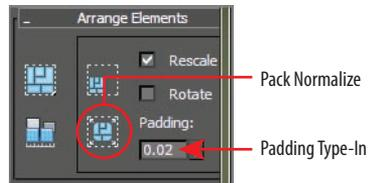

FIGURE 11.28
2. From the Arrange Elements rollout on the right side of the Edit UVWs dialog box, change the Padding Type-In field to 0.0 and then click the Pack Normalize button, as shown in Figure 11.28.